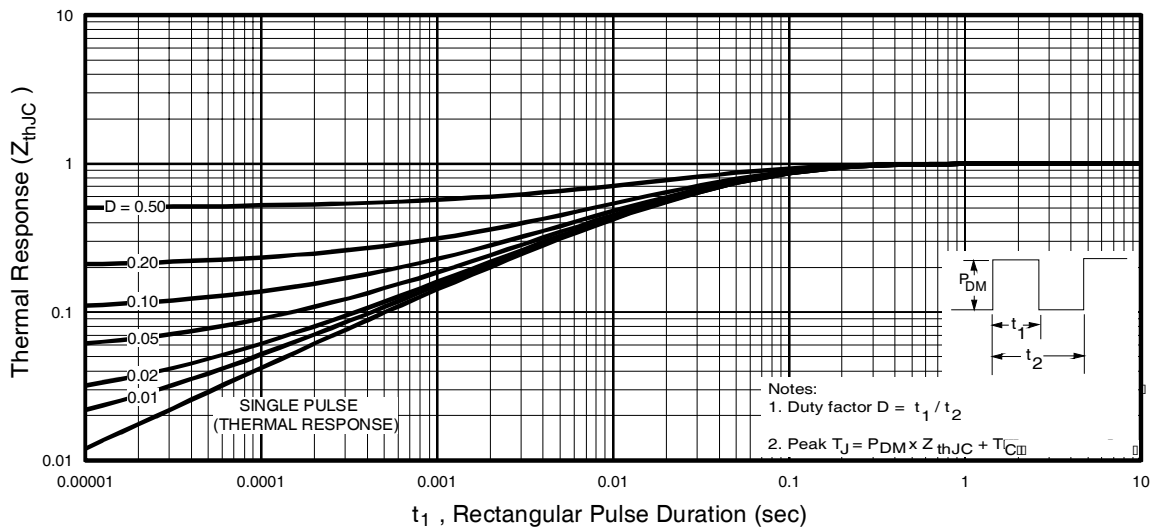

Fig 11. Maximum Effective Transient Thermal Impedance, Junction-to-Case
- ① Repetitive rating; pulse width limited by max. junction temperature. (See fig. 11)
- ② V_{DD} = 25V, starting T_J = 25°C, L = 1.2mH